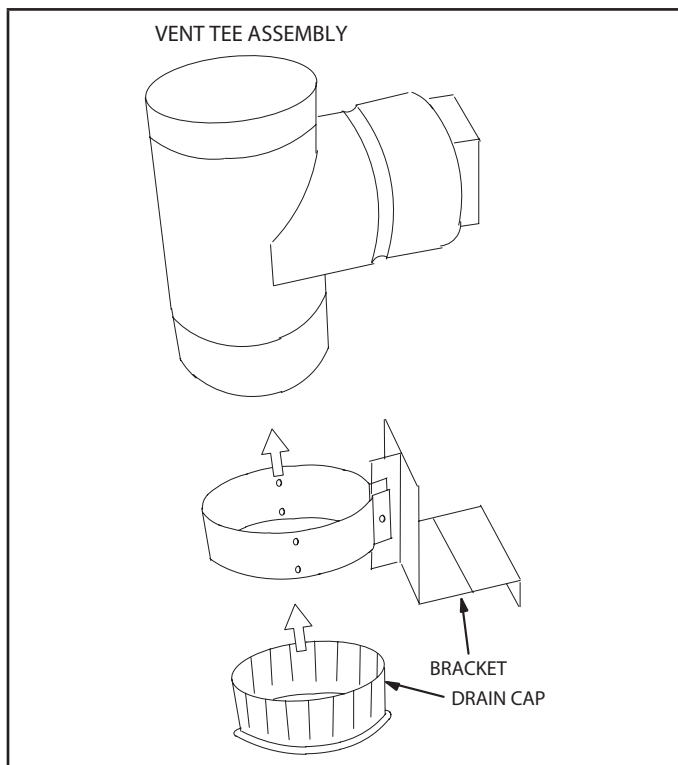

FIGURE 6
- 6 - Slide vent strap over bottom of tee and fit the drain cap in the bottom of the tee. See figure 6. Tighten screw in bracket flange. Secure strap and cap with screws on both sides.